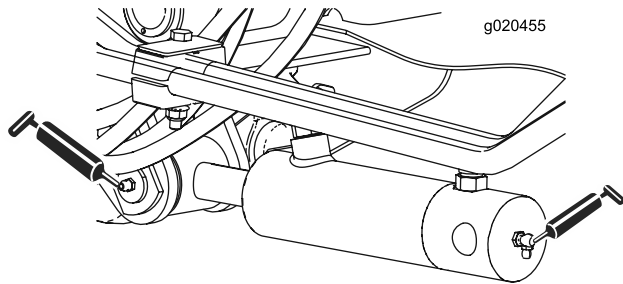

Figure 40
- Lift arm cylinder bushings (2 each) (Figure 40)